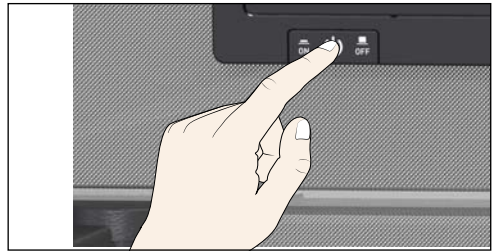

Fig. 24 Switching off the appliance.
3. Switch off the appliance with the main switch (Fig. 24).